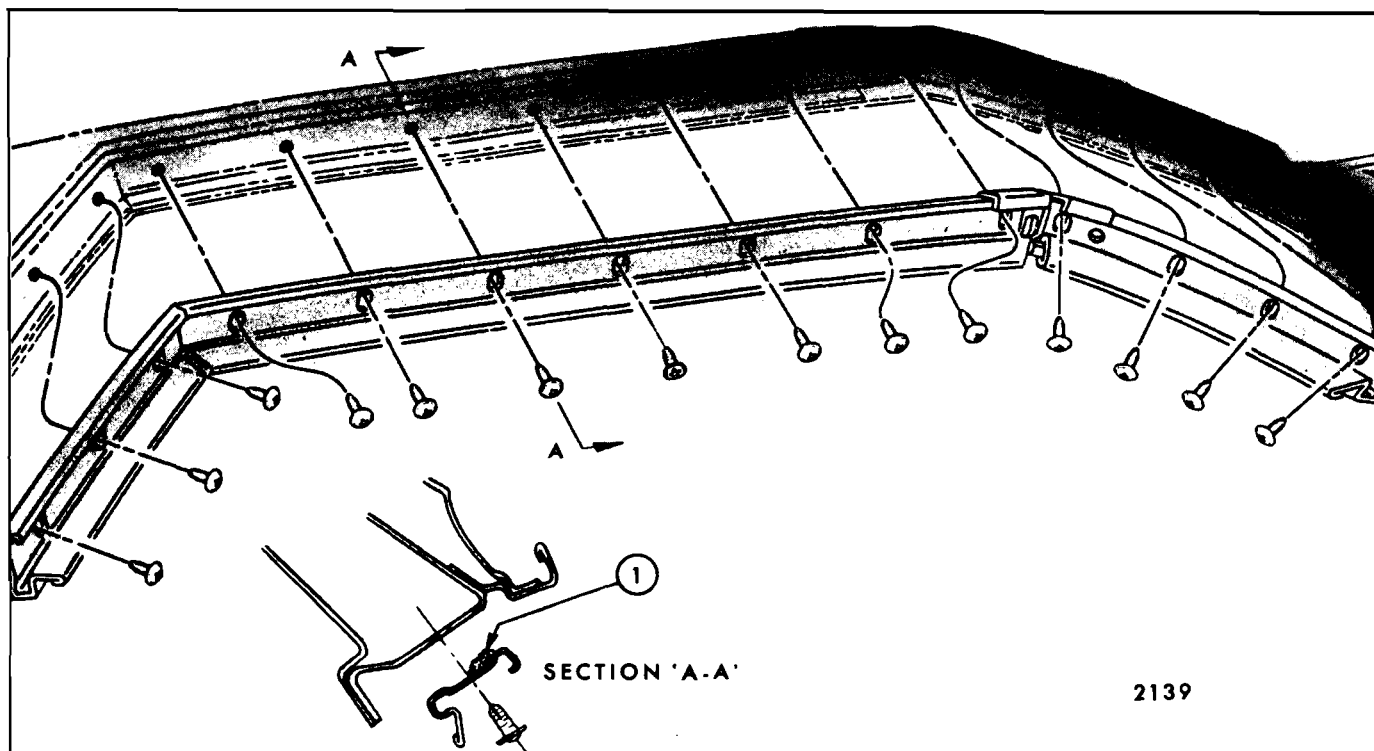

Fig. 6-9—Side Roof Rail Weatherstrip Retainer
3. With weatherstrip removed, screws securing weatherstrip retainer to side roof rail are exposed. Remove screws to remove retainer (Figs. 6-9 and 6-10).
4. With weatherstrip removed, screws securing weatherstrip retainer to side roof rail are exposed. Remove screws to remove side roof rail weatherstrip retainer (similar to Fig. 6-9).
3. Apply a continuous bead of a "pumpable" type body caulking compound to surface of retainer that mates with side roof rail ("1", Fig. 6-9). Apply bead outboard of attaching screw holes.